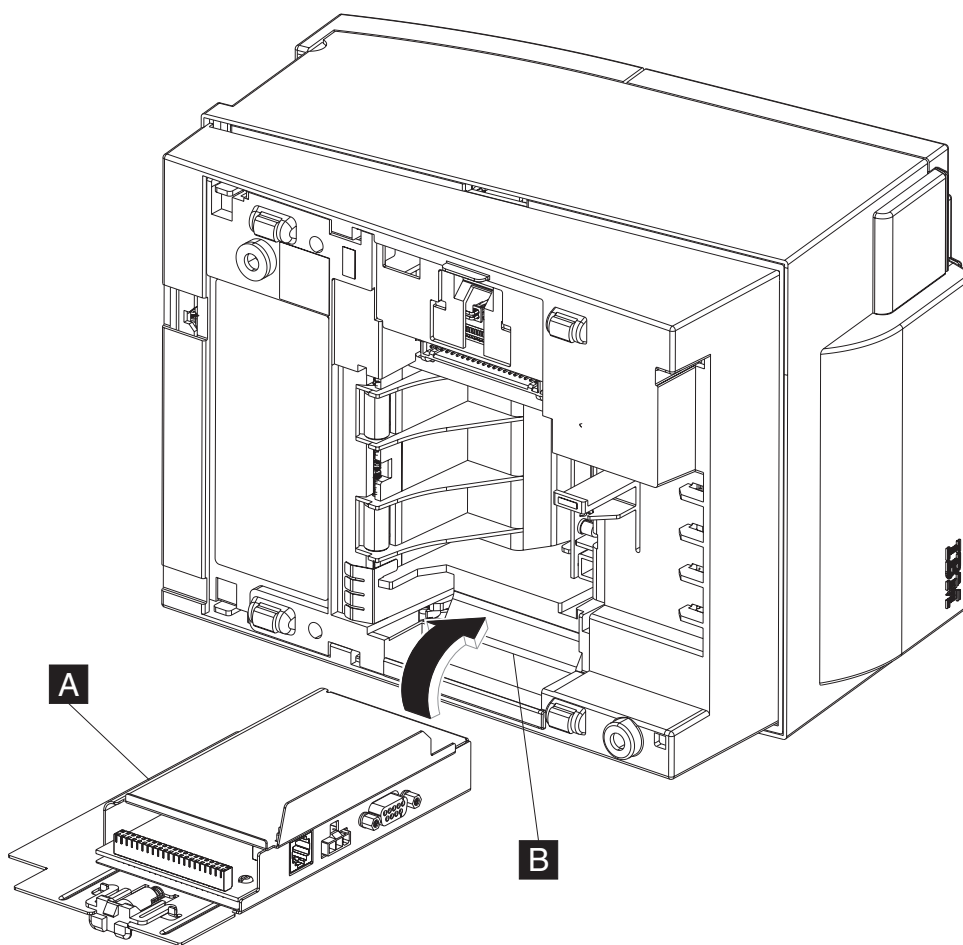

Figure 7. Installing the interface card
1. Place the printer unit on one side, as shown in Figure 7.